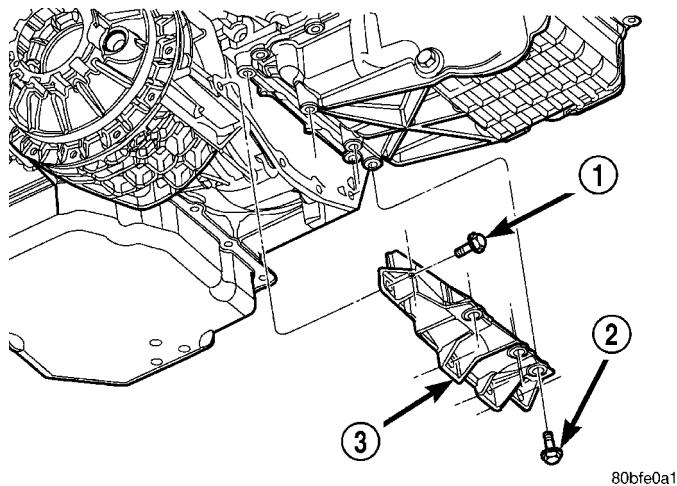

Fig. 104 STRUCTURAL COLLAR
- Remove structural collar from rear of oil pan and transmission housing (Fig. 104).
(4) Install the structural collar (Fig. 104), using the follow procedure: